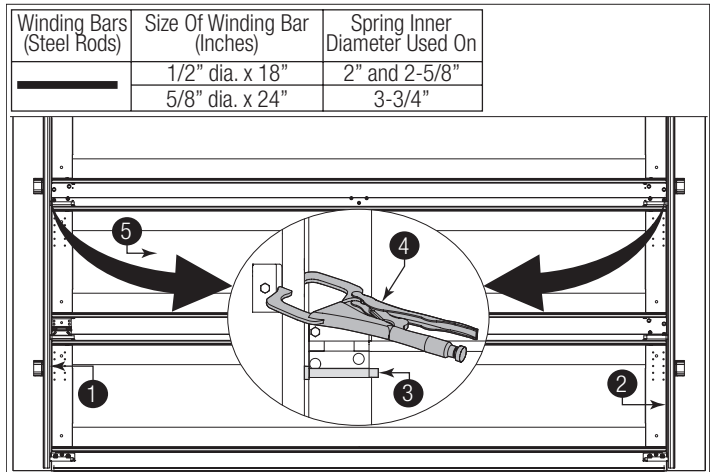

Figure 68
See Figure 68 for the following steps.
24b. To adjust spring tension, fully close door. Apply locking pliers to track above third track roller. Place locking pliers on torsion shaft, as shown Figure 68. Insert a winding rod ① into the winding cone. Push upward on the winding rod slightly while carefully loosening the set screws ② in the winding cone ③.